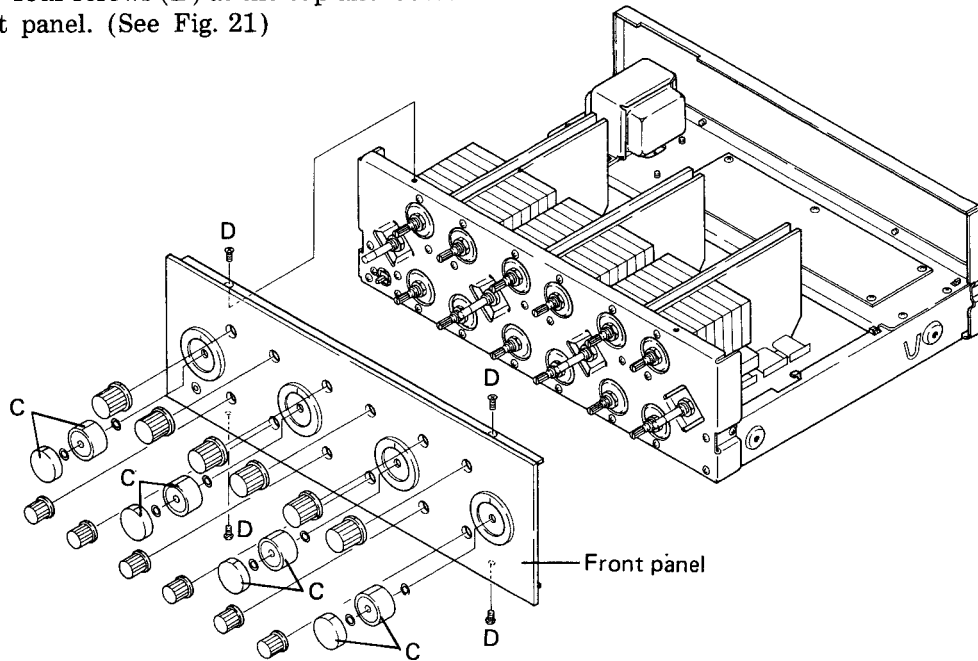

Fig. 21
Loosen the set screws of the eight LEVEL knobs (C) with an hexagonal wrench and remove all the knobs, except the POWER switch knob. Remove the four screws (D) at the top and bottom of the front panel. (See Fig. 21)